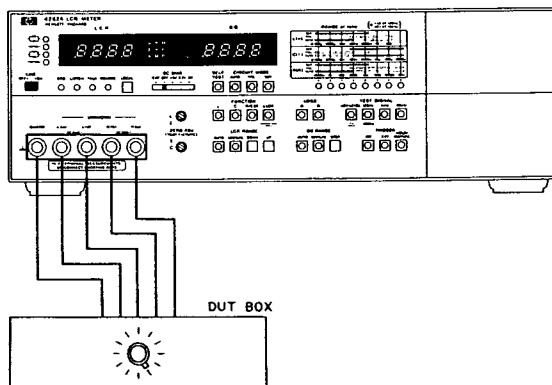

Figure 4-7. Offset Adjustment Test Setup.
5. Disconnect shorting bars from 4262A UNKNOWN terminals and connect Test Leads (HP P/N 16361-61605) between 4262A UNKNOWN terminals and 16362A DUT Box as shown in Figure 4-7.
15. Disconnect shorting bars from 4262A UNKNOWN terminals and connect Test Leads (HP P/N 16361-61605) between 4262A UNKNOWN terminals and 16362A DUT Box as shown in Figure 4-7.